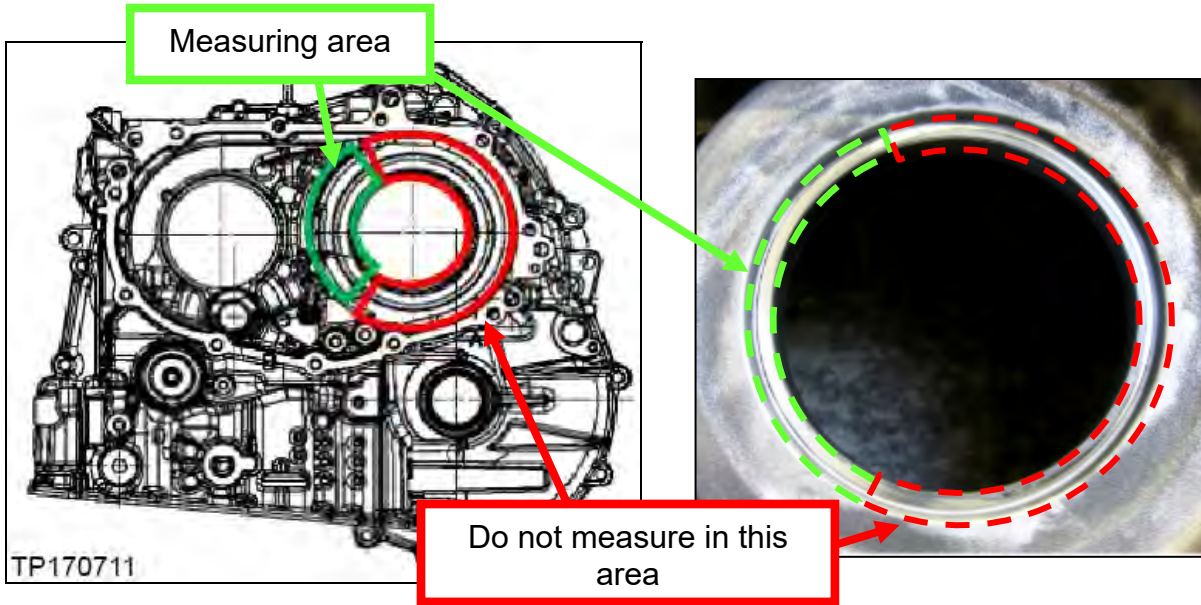

Figure 4M
- Refer to the Figures 4M and 5M and then proceed to page 57.
IMPORTANT: Please refer to Figure 4M for acceptable areas (highlighted in green) to measure “Y”.